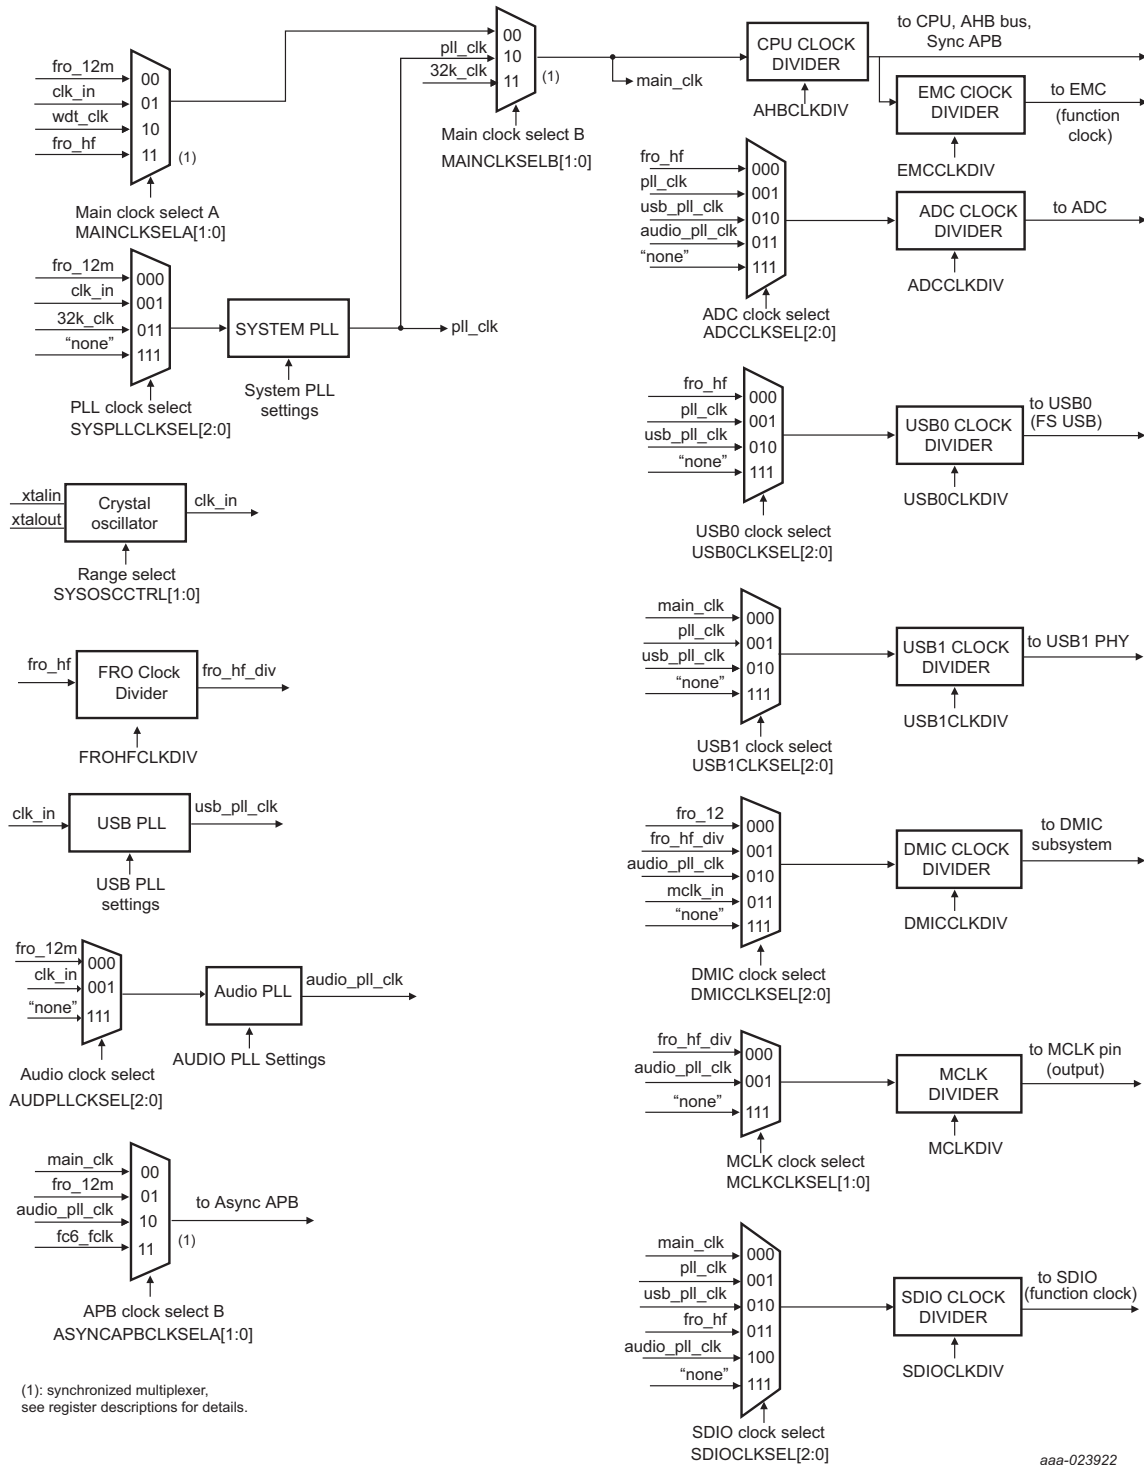
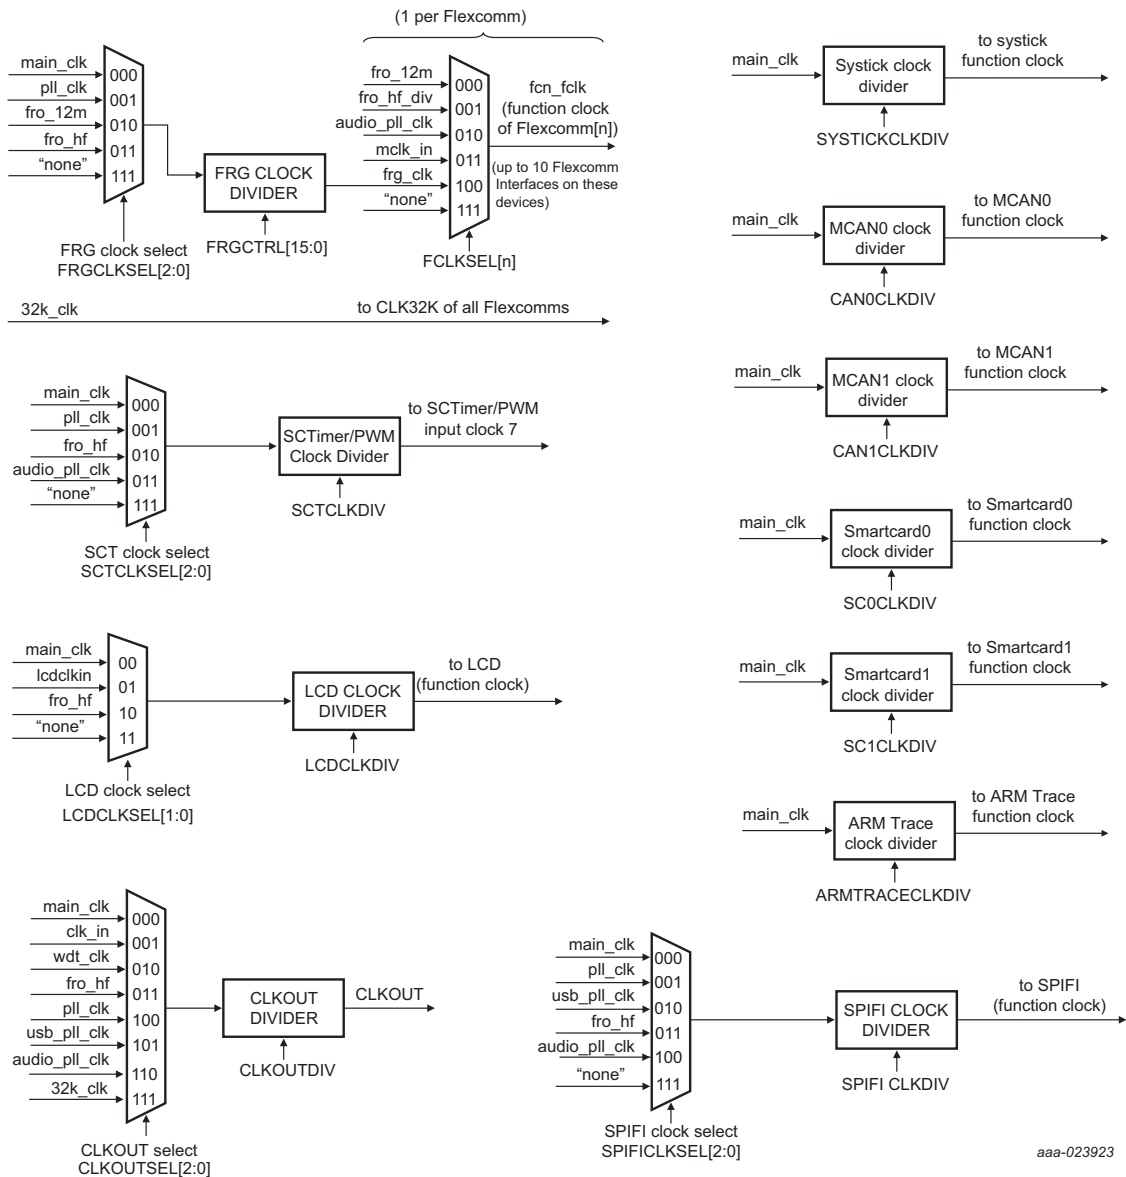

Fig 7. Clock generation
Fig 8. Clock generation (continued)
The system control block facilitates the clock generation. Many clocking variations are possible. Figure 7 and Figure 8 give an overview of potential clock options. The LPC5460x/61x devices operate at CPU frequencies of up to 180 MHz. The LPC54628 device operates at CPU frequencies of up to 220 MHz.
**Remark:** The indicated clock multiplexers shown in Figure 7 are synchronized. In order to operate, the currently selected clock must be running, and the clock to be switched to must also be running. This is so that the multiplexer can gracefully switch between the two clocks without glitches. Other clock multiplexers are not synchronized. The output divider can be stopped and restarted gracefully during switching if a glitch-free output is needed.
audio_pll_clk	The output of the Audio PLL. The Audio PLL and its source selection are shown in <a href="#">Figure 7 "Clock generation"</a> .
fcn_fclk	The function clock of Flexcomm Interfaces. See <a href="#">Figure 8 "Clock generation (continued)"</a> .
frg_clk	The output of the Fractional Rate Generator. The FRG and its source selection are shown in <a href="#">Figure 7</a> .
lcdclk_in	The clock input to the LCD display controller. See <a href="#">Figure 8 “Clock generation (continued)”</a> .
main_clk	The main clock used by the CPU and AHB bus, and potentially many others. The main clock and its source selection are shown in <a href="#">Figure 7</a> .
pll_clk	The output of the System PLL. The System PLL and its source selection are shown in <a href="#">Figure 7 “Clock generation”</a> .
usb_pll_clk	The output of the USB PLL. The USB PLL and its source selection are shown in <a href="#">Figure 7 “Clock generation”</a> .